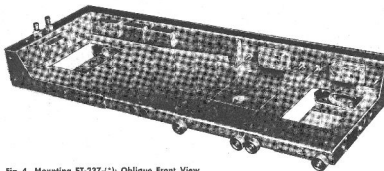

Fig. 4. Mounting FT-237-(*): Oblique Front View
a. General. This mounting (Fig. 4), will hold either:
(1) Radio Set SCR-608-A. One Radio Transmitter BC-684-A and two Radio Receivers BC-683-A.
(2) Radio Set SCR-628-A. One Radio Transmitter BC-684-A and one Radio Receiver BC-683-A.
Dust covers are provided for protection of the unused receptacles. Screw the dust covers to the rear of the mounting when removed from the receptacles. (See Fig. 4.)